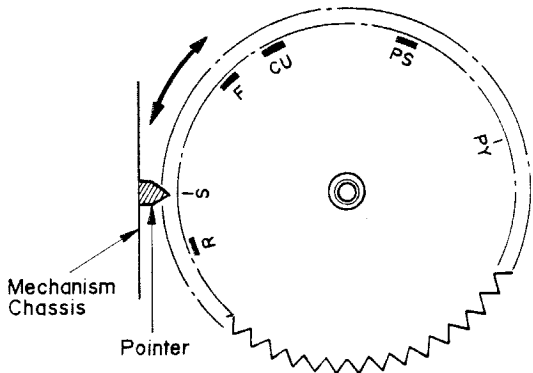

Fig. 4.1
- (1) **Offset Adjustment of Control Motor Driver**
- (a) Refer to Figs. 4.1 and 4.2.